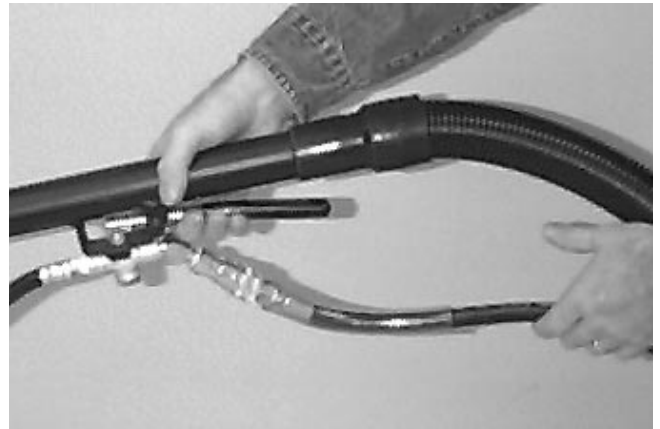

FIG. 12
5. Connect accessory tool to solution hose and vacuum hose (Figure 12).